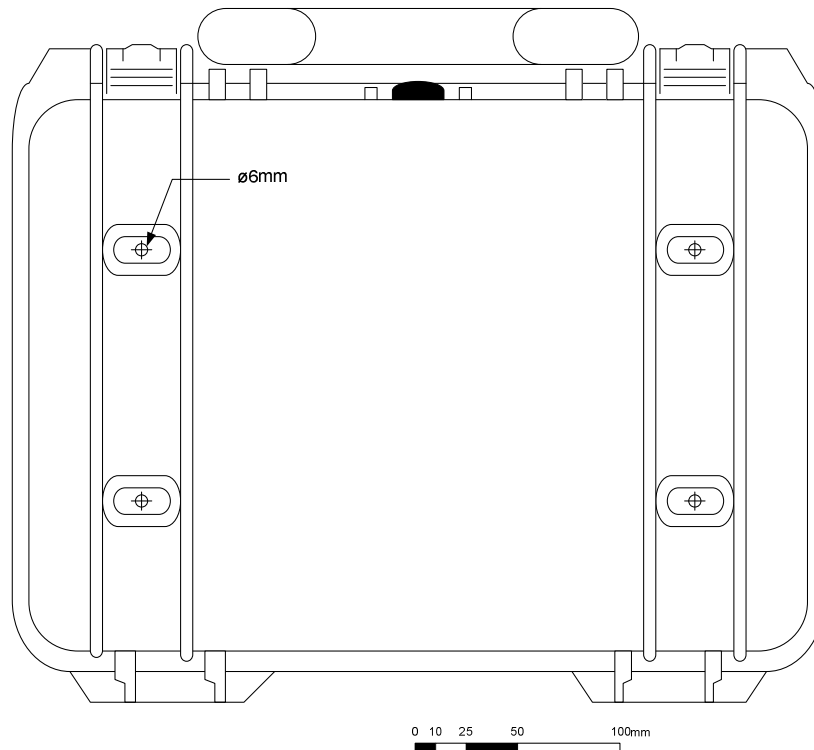

Figure 3.4 – Pelicase® 1450, bottom view.
- 1) At bottom side (figure 3.4), drill four 6mm holes inside each box feet;